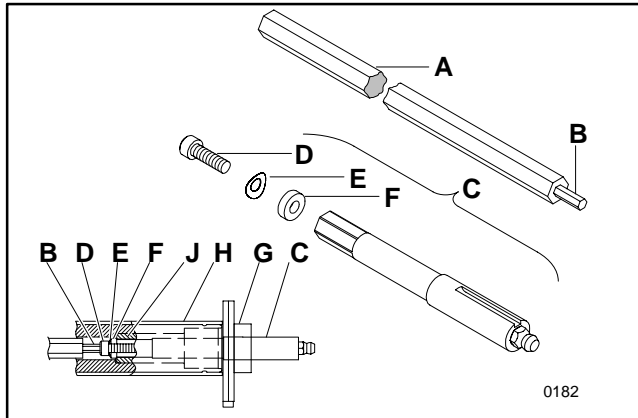
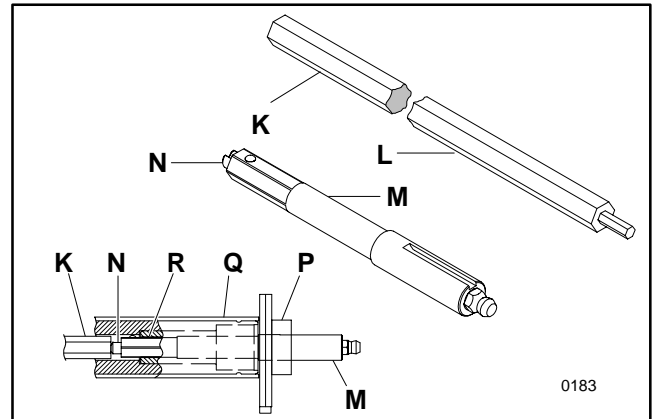

Figure 24
Figure 25: Type 2 for 15 to 25" (381 to 610 mm) Wide Conveyors
Removal of the outboard drive shaft (C of Figure 24 and M of Figure 25) requires use of Dorner hex key wrench extension tool (A of Figure 24 and L of Figure 25).
1. Insert the small end (B of Figure 24) of hex key wrench extension tool (A) into the spindle (H) end opposite the outboard drive shaft assembly (C) and
3. Remove the outboard drive shaft assembly (M of Figure 25) by inserting the blunt end (K) of the hex key wrench extension tool (L) into the spindle (Q) end opposite the outboard drive shaft assembly (M).
4. While pushing in the spring loaded plunger (N) with the hex key wrench extension tool (L), pull out the outboard drive shaft assembly (M).
For outboard drive shaft assembly (C of Figure 24 and M of Figure 25) installation, the spindle (H of Figure 24 and Q of Figure 25) may have to be turned around in the conveyor frame. The hex bore (J of Figure 24 and R of Figure 25) is off center on spindles for conveyors measuring 5" (127 mm) and wider. If necessary, remove the spindle following the "Spindle Removal Procedure" on page 14, turn it around, and replace it following the "Spindle Replacement Procedure" on page 16.
Install the outboard bearing retaining sleeve in the desired drive location. Be sure the spindle hex bore (J of Figure 24 and R of Figure 25) is properly located as indicated in the previous chart.
1. Push the outboard drive shaft assembly (C of Figure 24) into the outboard bearing retaining sleeve (G).
2. Place the curved spring washer (E), then the flat hard washer (F) onto the special spindle screw (D). Turn the screw/washer set into the outboard drive shaft assembly (C) using the small end (B) of hex key wrench extension tool (A). Tighten the screw until it is just seated in the shaft [80 in/lb (9 Nm) maximum] which fully compresses the spring washer. Then, back off the screw 1/2 turn (180°).
1. Insert the blunt end (K of Figure 25) of the hex key wrench extension tool (L) into the end of the spindle (Q) opposite the outboard bearing retaining sleeve (P).
2. Exert inward pressure on the hex key wrench extension tool (L) to release the spring loaded plunger (N), at the same time push inward on the outboard drive shaft assembly (M) until it is fully seated.